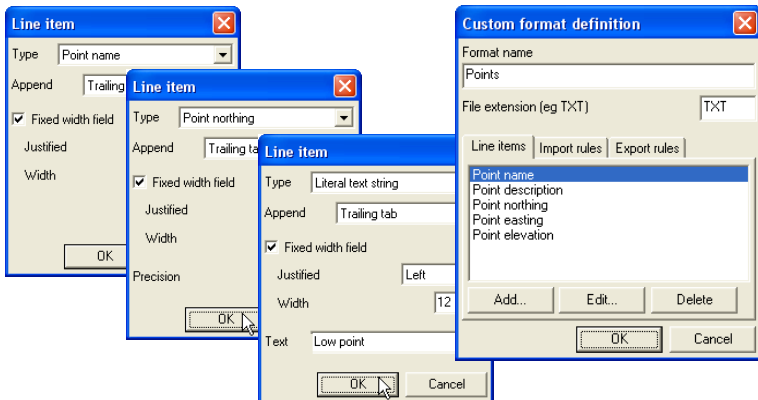

Figure 2-17. Add Line Items to Format
- Select a line item *Type* and enter the desired parameters for the new format, then press **OK**. The available parameters depend on the type of line item selected (Figure 2-17).
- For each additional line item, repeat step 3 (Figure 2-17).